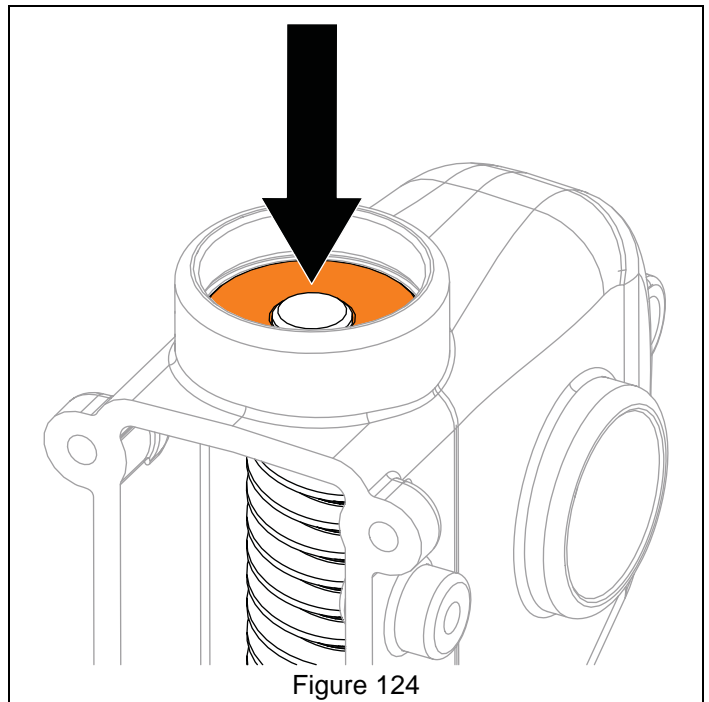

Figure 124
8. Reinstall flange bushing onto impeller shaft end. With a driver, strike bushing until positioned just below retaining ring groove. See Figure 124.